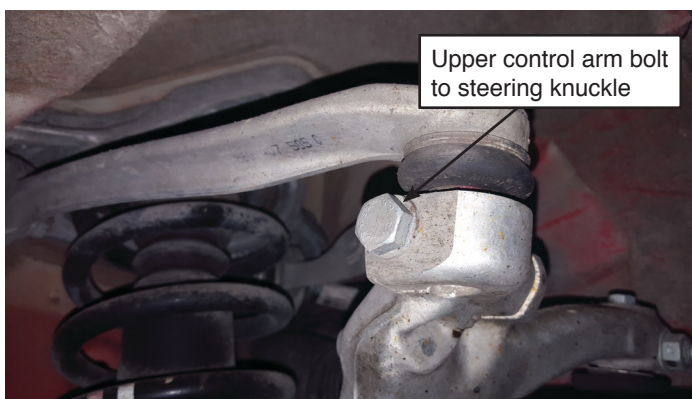

fig. 3
5. Remove the bolt from the upper control arms to adjoining steering knuckle (Fig. 3). Remove the upper control arm ball joints from the steering knuckle.
8. Reattach the upper control arm ball joints to the steering knuckle (Fig. 3). Make sure the joints are fully seated as the bolt is slid through.